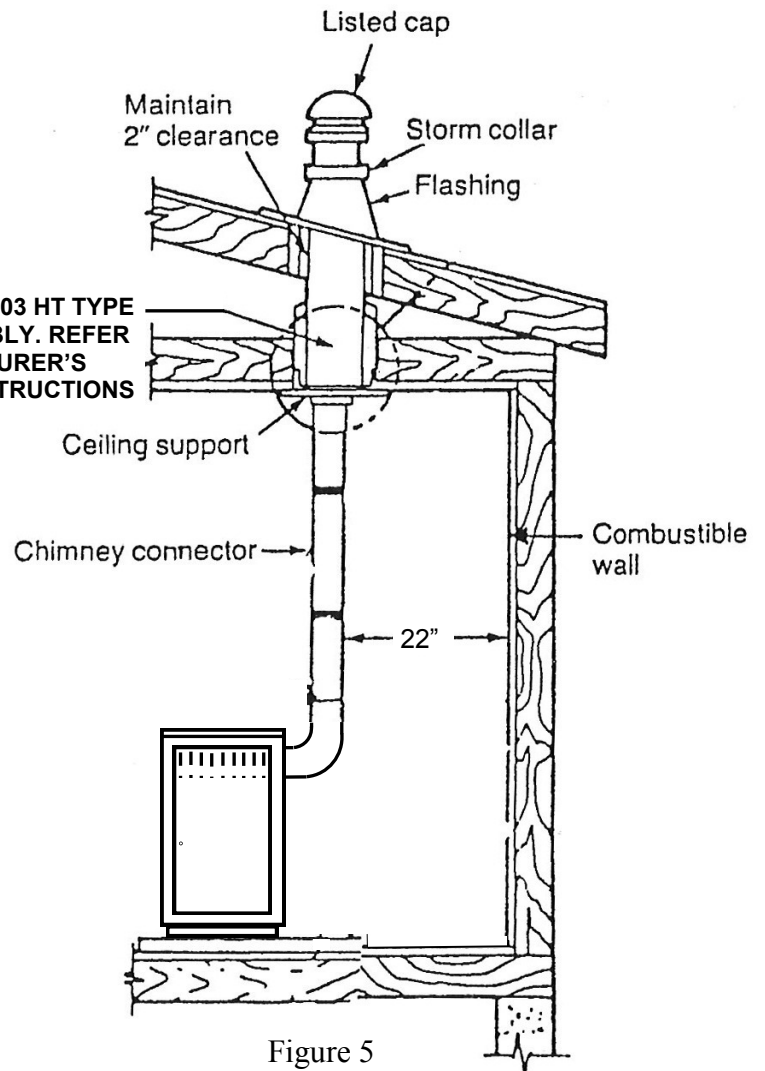

Figure 5
2. Back exit to vertical ceiling exit. Use listed 2100° UL 103 HT Type Chimney. (See figure 5, Page 8).
5. Now measure from upper elbow's crimped end to blunt end of lower elbow. Cut and place pipe between elbows. Connect each section so crimped end faces downward. (See Page 8, Figure 5).
6. Secure each section to each other using at least three (3) sheet metal screws or rivets, using furnace cement to seal joints.